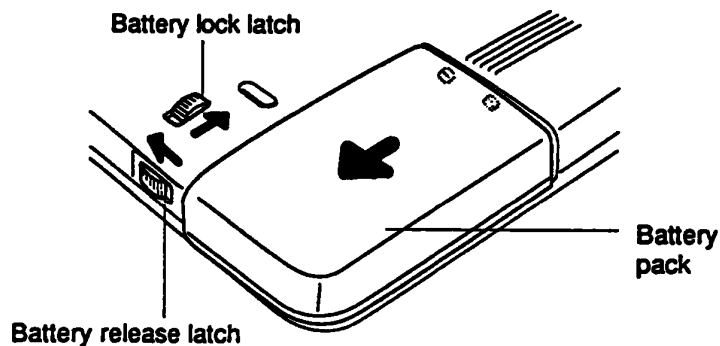

Figure 4-1 Releasing the Battery Pack Latches
To remove the T100X battery pack, follow the steps below and refer to Figures 4-1 and 4-2.
3. Push the **battery lock latch** into the unlock position (Figure 4-1).
4. Slide the **battery release latch** until the battery pops free (Figure 4-1).